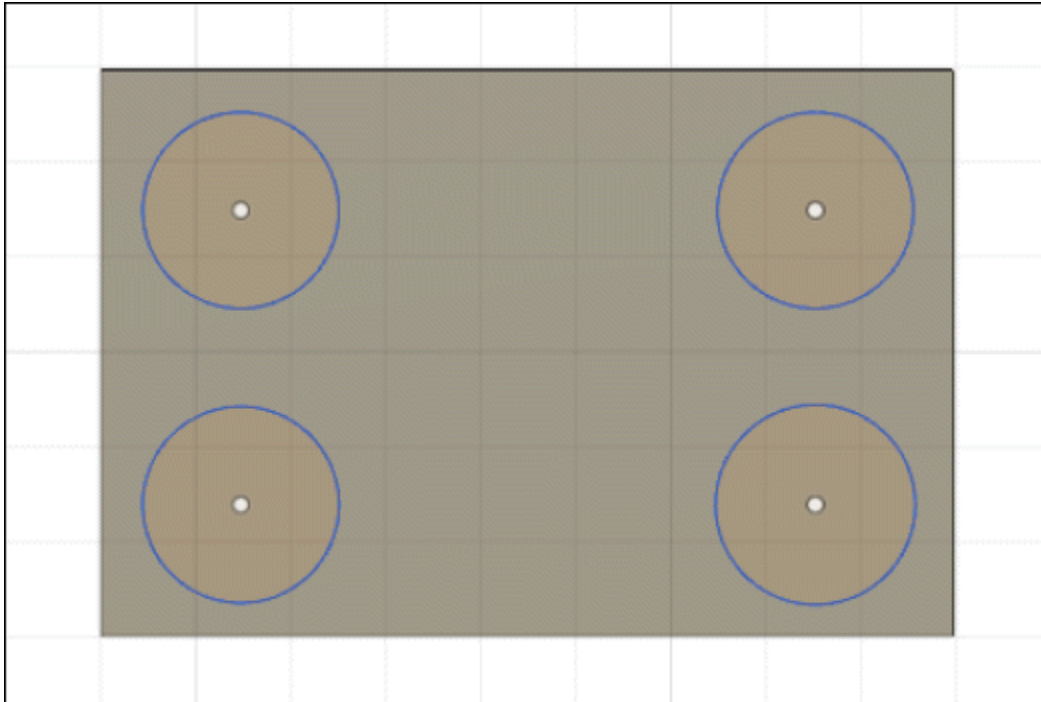

Figure-50. Sketch for multiple holes
- Click on the **Multiple Holes** button in **Placement** section from **HOLE** dialog box. The **Sketch Point** selection tool will be activated. Select the sketch points for defining positions of holes; refer to Figure-50.